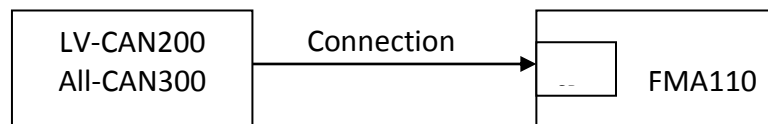

Figure 57 Connect adapter LV-CAN100 to FMA110
SCAN function – is in use when FMA110 is connected to CAN adapter (Figure 57), then wait 10s (Note, that car engine must be started), disconnect adapter from FMA110, and connect PC USB cable to FMA110 Device (Figure 57). It is very important not to disconnect FMA110 from power source during this operation, because if FMA110 is reconnected all received CAN bus data will be lost. FMA110 remembers received data from LV-CAN200 or ALL-CAN300 and at the end of the procedure when “SCAN” button is pressed, user will see all CAN data which is sent by adapter. Enable CAN data which needs send to server and save configuration pressing “Save” button.
1. In car, connect LV-CAN200 or ALL-CAN300 to CAN bus and to the FMA110 device (Figure 57), wait 10 seconds. Note, that car engine must be started.